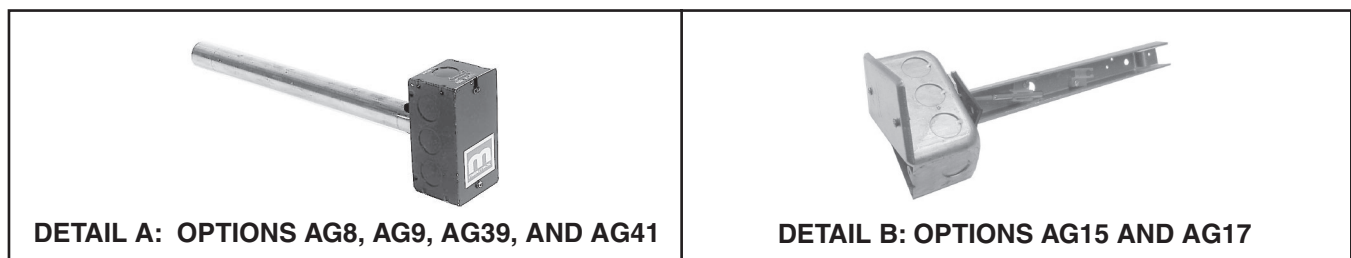

Figure 9. Discharge Air Temperature Sensor and Holder
- (1) Position of sensor in duct is also important—mixing tube shown in **Figure 9**, DETAIL A is 12 inches (305 mm) long and holder shown in **Figure 9**, DETAIL B extends 9-3/16 inches (233 mm) into ductwork.
- (2) Turn holder so that element is shielded from direct airflow and will sense air temperature as it flows through holes in holder.
- (3) At selected ductwork location, mark diamond-shaped hole—approximately 1 × 1 inch (25 × 25 mm—required for sensor holder or round hole required for mixing tube and cut hole no larger than necessary.
- (4) For units with option AG8, AG9, AG39, or AG41, slide mixing tube (see **Figure 9**, DETAIL A) into ductwork and attach sensor.
- (5) For units with AG15 or AG17, push element into clip in holder (see **Figure 9**, DETAIL B), slide holder into ductwork, and position holder so that it shields sensor from direct airflow. Secure box portion of holder to ductwork using four field-supplied #6 sheet metal screws.